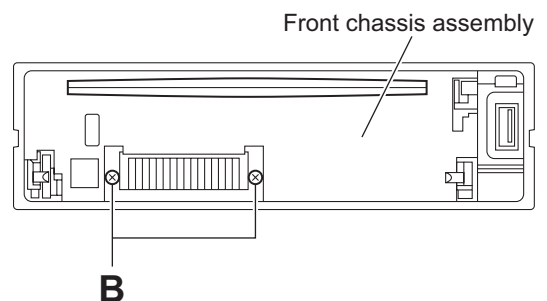

Fig.4
- (2) Remove the two screws **B** on the front sides of the main body. (See Fig.4.)